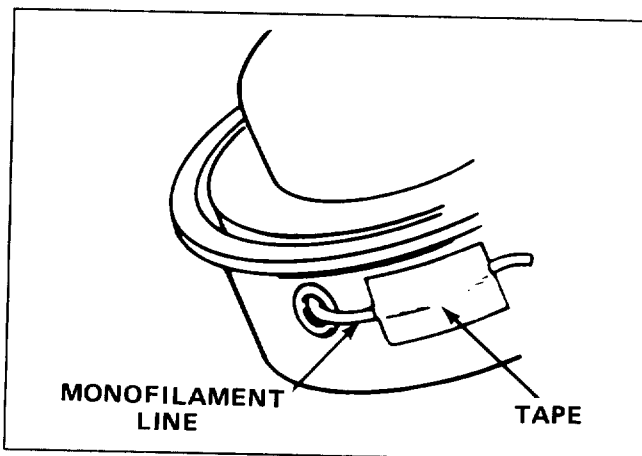

Figure 2
1. To avoid tangling line during shipment, the tip of the monofilament line has been taped to the head assembly. The tape must be removed before operation (Fig. 2).
CUTTING LINE (Figs. 2 & 3)